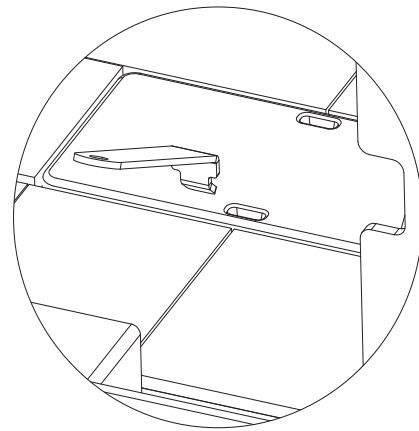

Figure 19.2
2. Remove cast iron cap from inside the firebox using tools supplied. Clean ash through the ash removal system channel into the drawer below (**Figure 19.2**). Make sure all ash is removed from the top of ARS door. Lift up the grate and inspect the top of the door to ensure all ash has been removed. You can rapidly move the ARS latch handle up and down to help remove any ash from the door. Use a small brush to clean off the top of the door if any ash remains. **Be sure to replace the cap before operating the stove.** It is recommended to leave 1/4 to 1/2 inch (6-13mm) of ash on the firebox floor to allow air to flow freely underneath wood.